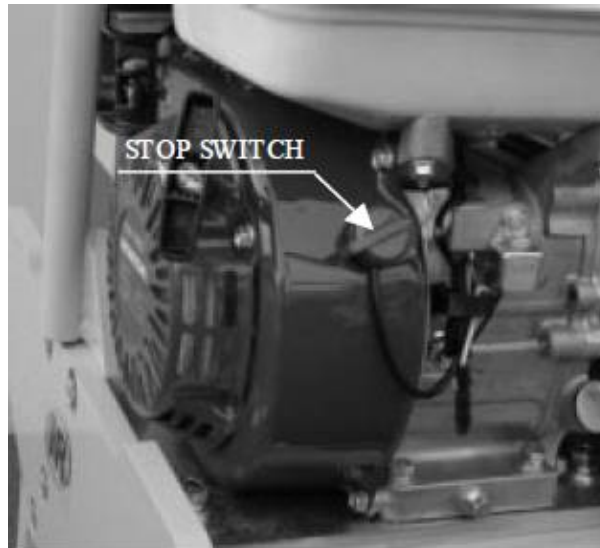

Figure 5-9
3. Press and hold the engine stop button until the engine stops. Refer to Figure 5-9.